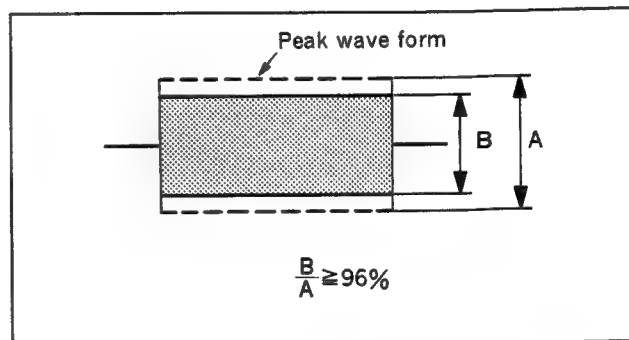

Fig. 6-9-11 RF wave form level adjustment
10. Turn again RV702 to counterclockwise direction, and adjust the level of the wave shape to 96% of the maximum amplitude of the wave shape. (See Fig. 6-9-11.)